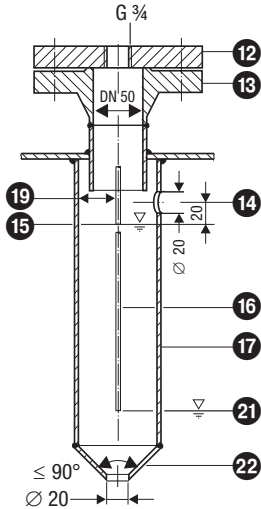

Fig. 5 Protection tube (provided on site) for installation inside the boiler
- The level transmitter NRGT 26-1 can be installed together with one GESTRA level electrode for water level limiting or for high-level alarm in a single protection tube or external level pot (inside diameter 100 mm). **Fig. 5 - 8**. If the level limiting electrode is installed inside the vessel, it must be at least 40 mm away from the upper vent hole.